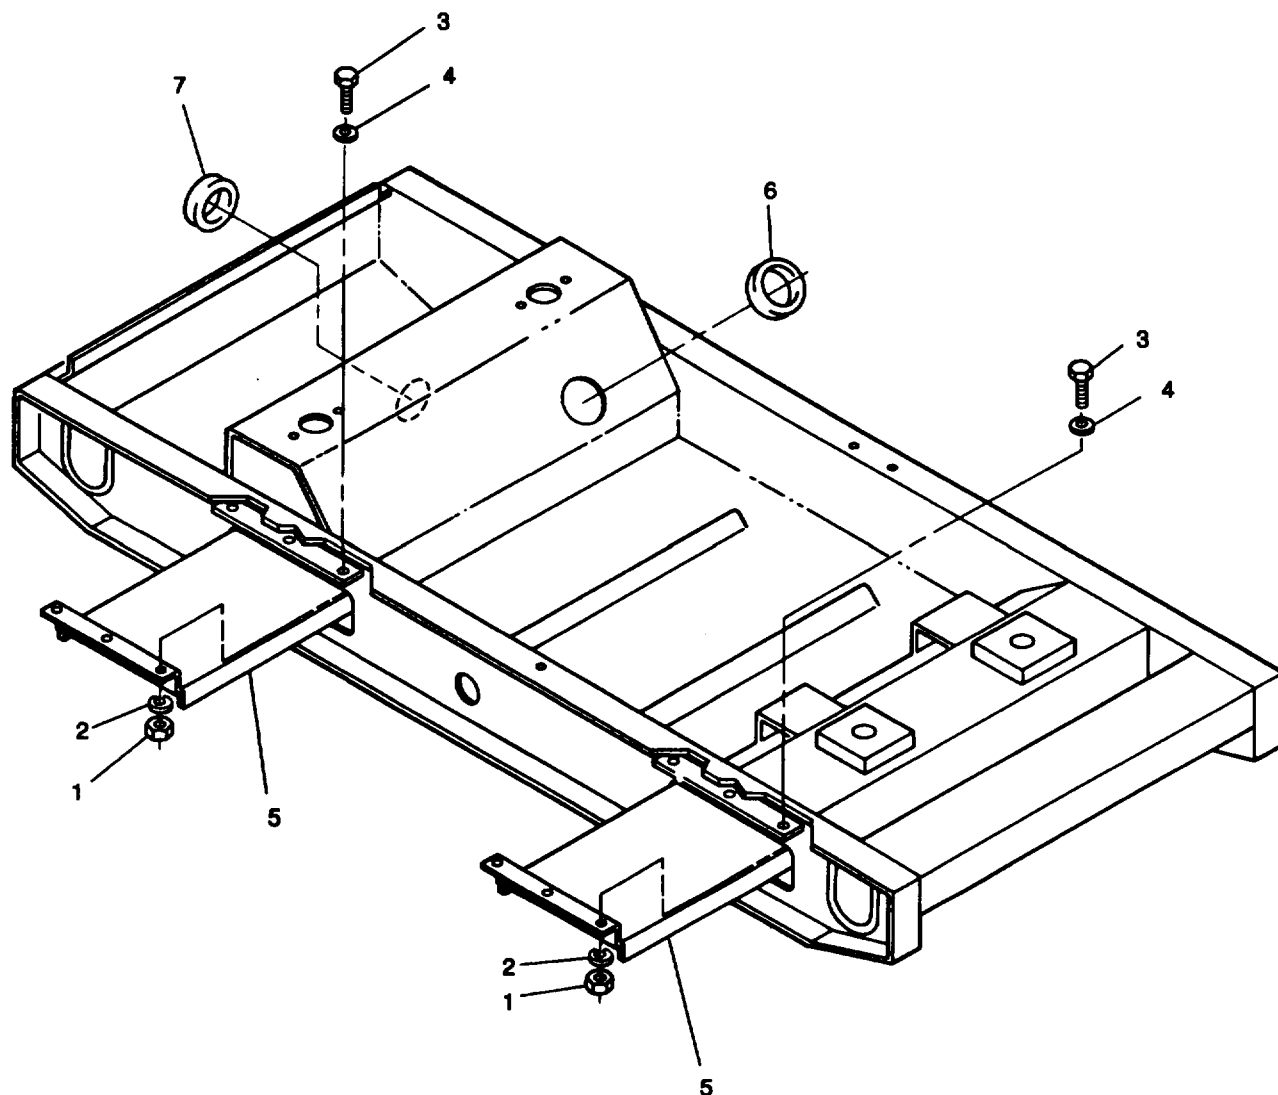

FIGURE 4-21. Skid Base
- d. Remove nuts (1, FIGURE 4-21), lockwashers (2), bolts (3), washers (4), and forklift guides (5) from skid base.
- e. Remove cable grommets (6) and (7) from skid base.
- a. Install forklift guides (5, FIGURE 4-21) in skid base with bolts (3), washers (4), lockwashers (2), and nuts (1).
- b. Install cable grommets (6) and (7) in skid base.